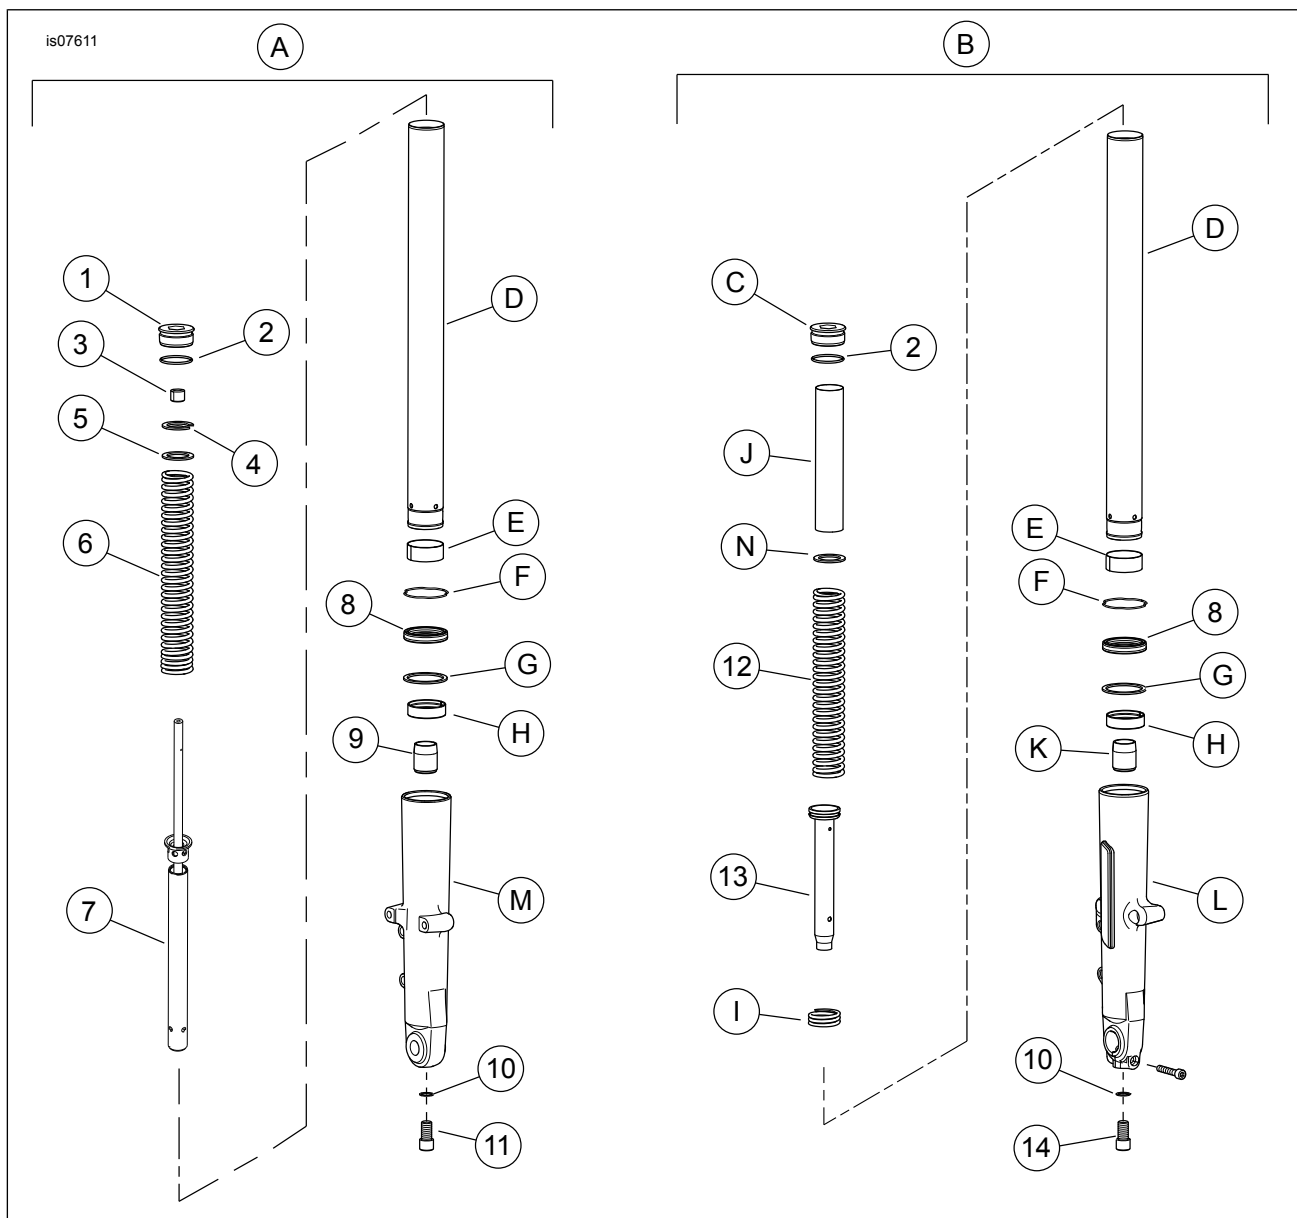

Figure 7. Service Parts: Touring Cartridge Front Fork Kit
- b. See Figure 7. With the fork bolt upward, clamp fork tube (D), between rubber pads on inboard side of tool. Tighten knobs until fork tube is securely held.
- a. Clamp tool in vise in a vertical position with length adjustment screw (2) upward.
- b. Place hole at bottom of fork slider over post (5) at bottom end of tool.
- c. Place flat washer (Item 5, Figure 7), over the damper rod extension tool and on top of spring. Place spring seat (Item 4, Figure 7), concave side up, on top of the flat washer. With the smaller OD upward, place spring compressor collar (item 4, Figure 4) over spring seat and flat washer.
- d. Adjust tool as necessary until three retaining pins (3) engage blind holes in spring compressor collar (4). Turn length adjustment screw counterclockwise to lengthen and clockwise to shorten.
20. See Figure 7. Install **new** jamnut (3) with non-threaded end over the damper rod first. Thread onto damper rod until it bottoms out on the shoulder.